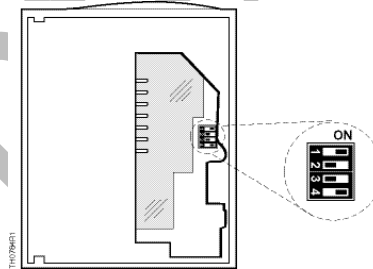

Figure 9. DIP Switch Setting.
- The DIP switches are located on the circuit board, which is accessible through the rear of the housing. To access the DIP switches, remove the housing from the base plate. See Figure 9.